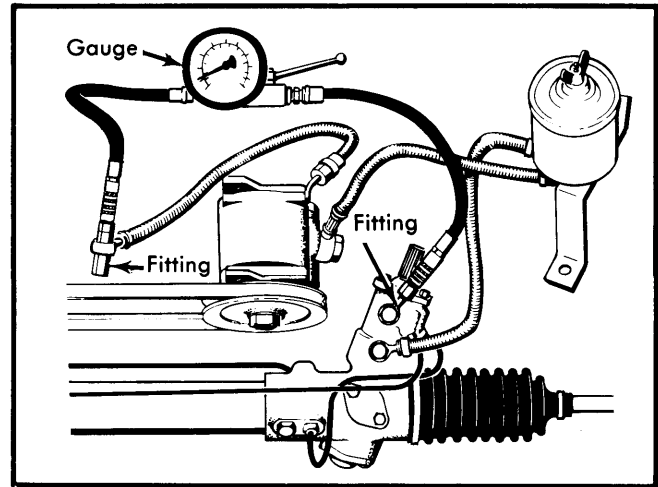

Fig. 1 Pressure Gauge Test Set Up
Testing — 1) Connect a pressure gauge as shown in Fig. 1. Make sure oil in reservoir is at level mark. Place pressure gauge so it can be seen from the drivers seat.
1) — With pressure gauge connected as shown in Fig. 1, and engine at idle, turn steering wheel fully to left, then fully to right, pressing at end position for a maximum of 10 seconds. Correct pressure should be 895-995 psi (63-69 kg/cm²) for the Saginaw pump and 825 psi (58 kg/cm²) for the ZF pump.